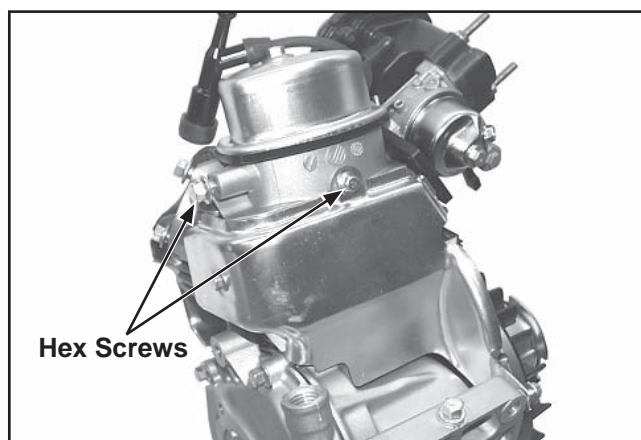

Figure 11-63. Cylinder Heat Shield Mounting Bolt Location.
5. Install the lower heat shield and secure with two hex screws. See Figure 11-63.